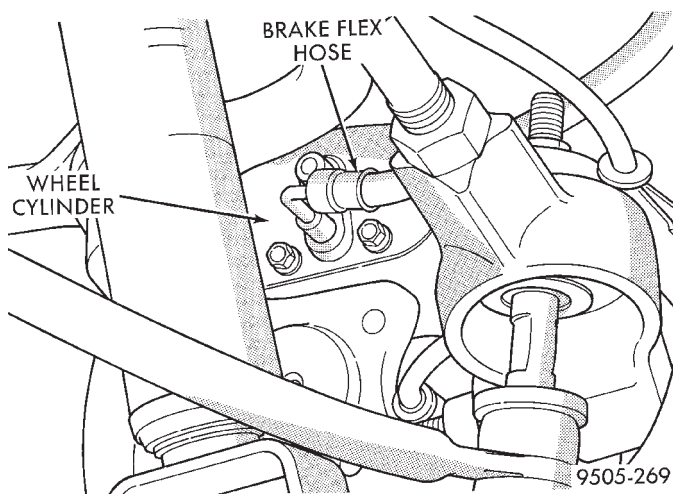

Fig. 79 Brake Flex Hose At Wheel Cylinder
(1) In case of a leak, remove brake shoes (replace if soaked with grease or brake fluid.)
(2) Disconnect rear brake flex hose tube from wheel cylinder and remove the flex hose routing bracket from the brake support plate (Fig. 79).
(3) Hand start hydraulic brake hose tube fitting to wheel cylinder (Fig. 79). Tighten the tube nut to a torque of 17 N·m (145 in. lbs.).
(4) Install brake shoes on support plate. Follow procedure for Installing Brake Shoe Assemblies in this section of the service manual.
(5) Install rear brake drum onto rear hub.
(6) Install the wheel and tire assembly. Tighten the wheel mounting stud nuts in proper sequence until all nuts are torqued to half specification. Then repeat the tightening sequence to the full specified torque of 129 N·m (95 ft. lbs.).
(7) Bleed the entire brake system. See Bleeding Brake System in Service Adjustments section in this group of the service manual.
(8) Adjust the rear brakes. See Adjusting Service Brakes in Service Adjustments section in this group of the service manual.